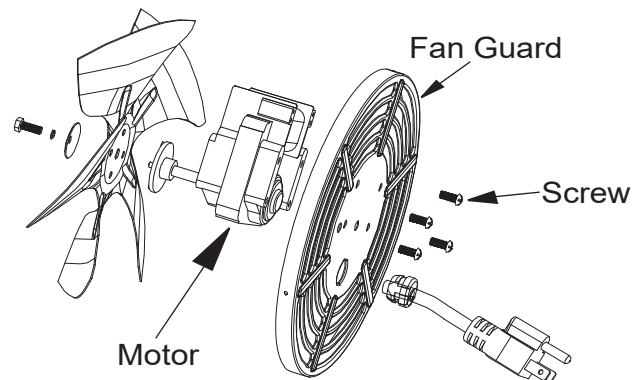

Figure 8 - Removing or Attaching Fan Guard from Motor
4. Use a nut-driver to remove the two nuts and two screws that attach the fan guard to the motor. Remove the fan guard from the motor (see Figure 8).